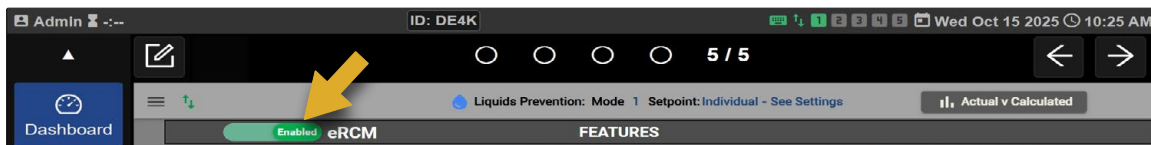

Figure 14
2. Set the **eRCM toggle** at the top of the screen to **Enabled**. See *Figure 14*. **NOTE**: When the eRCM toggle is set to **Disabled**, all eRCM Express features are inactive and the control panel will perform as a standard DE/ACM-4000 control panel.